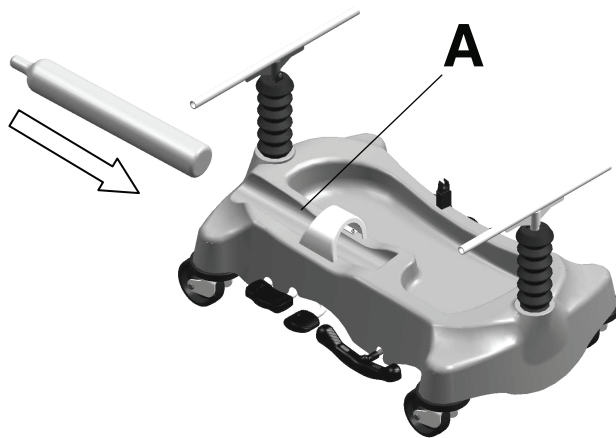

Figure 10 – Oxygen bottle retaining collar
To secure the oxygen bottle, slide the oxygen bottle into the cutout of the base hood (A), bottom first (Figure 10).